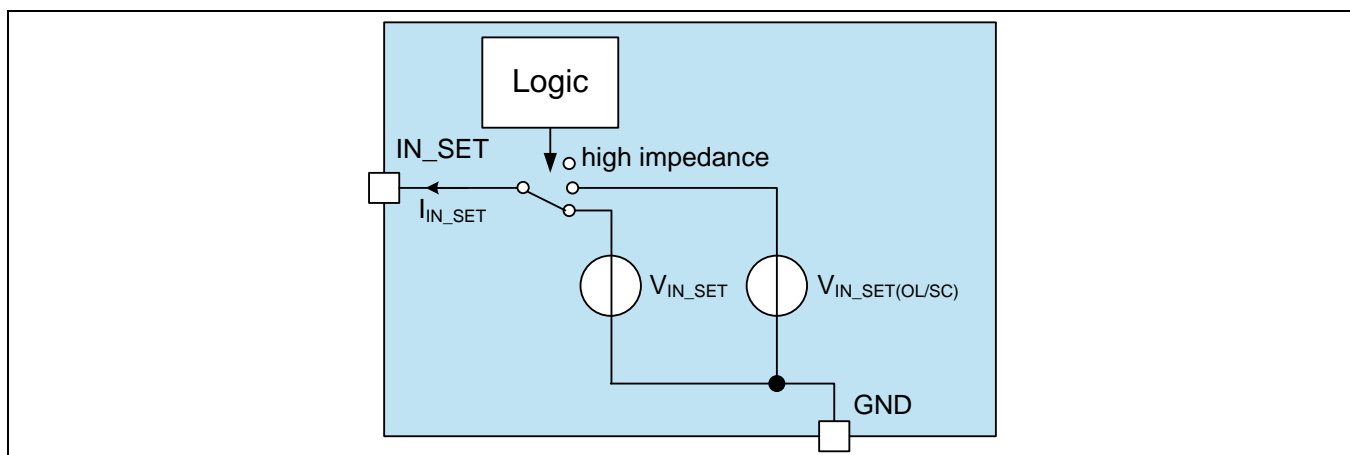

Figure 13 IN_SET pin of devices with ST pin (TLD1121,1124,1125,1313,1314,1311,1315,2311,2314)
- For devices with ST (status) pin, please see Figure 13 for the block diagram of the IN_SET pin. The 3 states of the IN_SET pin are: